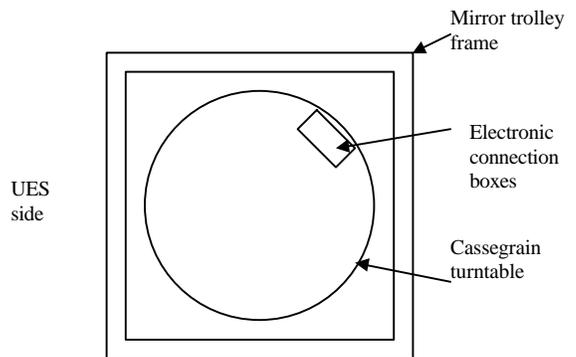

Figure 1
- p) Move the handling trolley under the mirror. Ref. photo 20 Watch out for hanging cables and ensure that the cassegrain turntable is rotated to the position indicated in figure 1